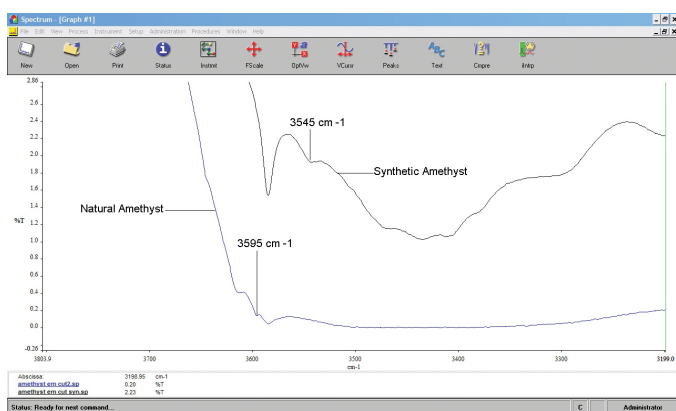

Fig. 2 The differences between a hydrothermally grown synthetic amethyst and an amethyst of natural origin.
**Group Frequency Region.** In the wavenumbers between 4000  $\text{cm}^{-1}$  to 1450  $\text{cm}^{-1}$ , the peaks are usually due to the stretching vibrations of bonded atoms. This region is sometimes called the ‘functional group’. In the functional group reading (Figure 2), the differences in the oxygen-hydrogen (O-H) molecule bonds may be very complex in nature, but as they are stretched by the infrared energy they can become very evident as seen in this synthetic amethyst.